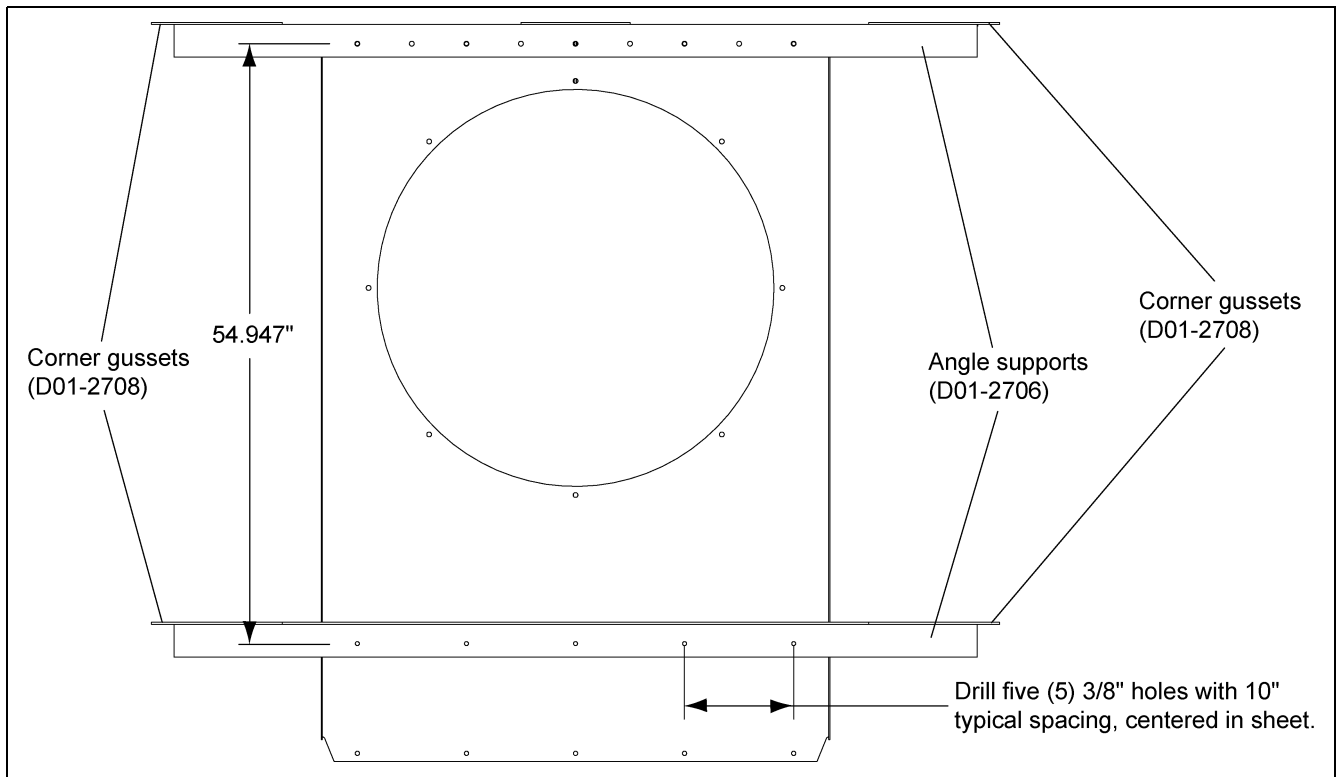

Figure 1
1. Drill five (5) 3/8" holes in front fan support as shown in Figure 1 on Page 2.
2. Mount both angle supports (D01-2706) to front fan support using 3/8" flange bolts and flange nuts (S-9065 and S-10028) as shown in Figure 2 on Page 2. On the top angle support the outside hole will use an eye bolt (S-7062) and two (2) hex nuts (S-7525) each. (See Figure 1 on Page 2.)
3. Attach four (4) corner gussets (D01-2708) to each end of both angle supports. (See Figure 1 on Page 2.)
4. Attach the first two (2) panels to the corner gussets using 3/8" flange bolts and flange nuts.
5. Attach the next four (4) corner gussets to the panels, one on top and bottom of each panel.
6. Attach the final two (2) panels to the corner gussets and connect in the middle with the locking strap (D01-2707).